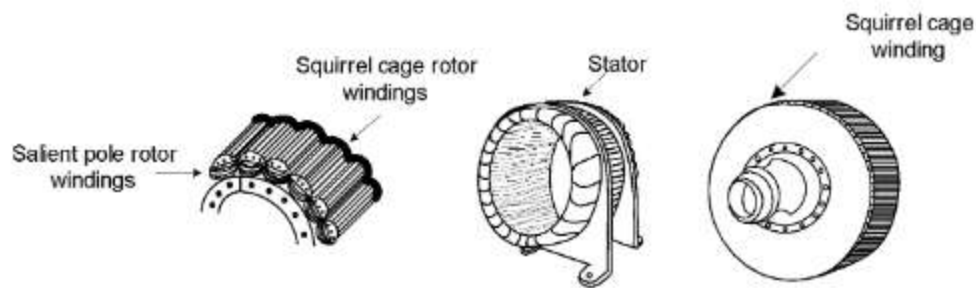

Figure 69 Details of the rotor of a repulsion-induction motor
- (c) *Repulsion-Induction motor*: This type of repulsion motor has a squirrel cage winding on the rotor under the regular wound winding, as shown in figure 69. The added winding is inductive and serves to limit the no-load speed when the motor speeds above the synchronous speed. The motor has fairly constant speed from no-load speed because of the squirrel-cage winding. The motor does not have a centrifugal switch and therefore needs little maintenance and repairs. It starts as a repulsion motor and runs as an induction motor.